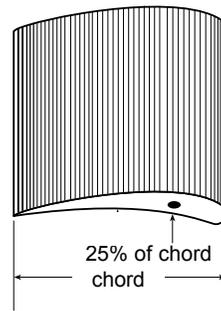

Figure 13
4. Chuck the rod into the drill. Mark the drill point on your wing at 25 percent of the chord (Figure 13).